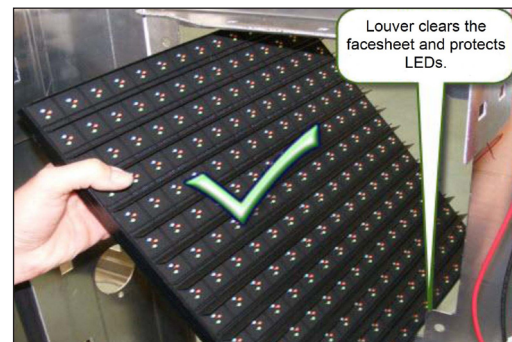
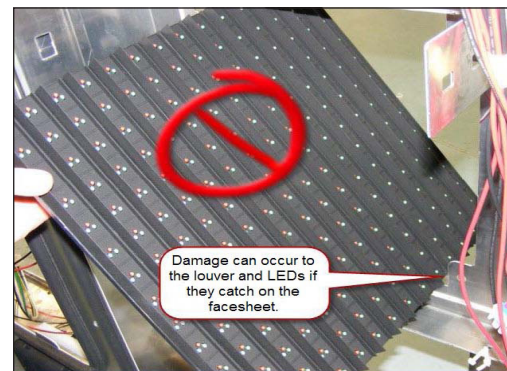

Figure 8: Proper Module Removal from Back
Figure 9: Improper Module Removal from Back
7. Rotate the module in a way that allows you to guide it through the frame opening without catching the louvers or LEDs on the cabinet. **Figure 8** shows proper module removal from the back. **Figure 9** shows improper module removal from the back.